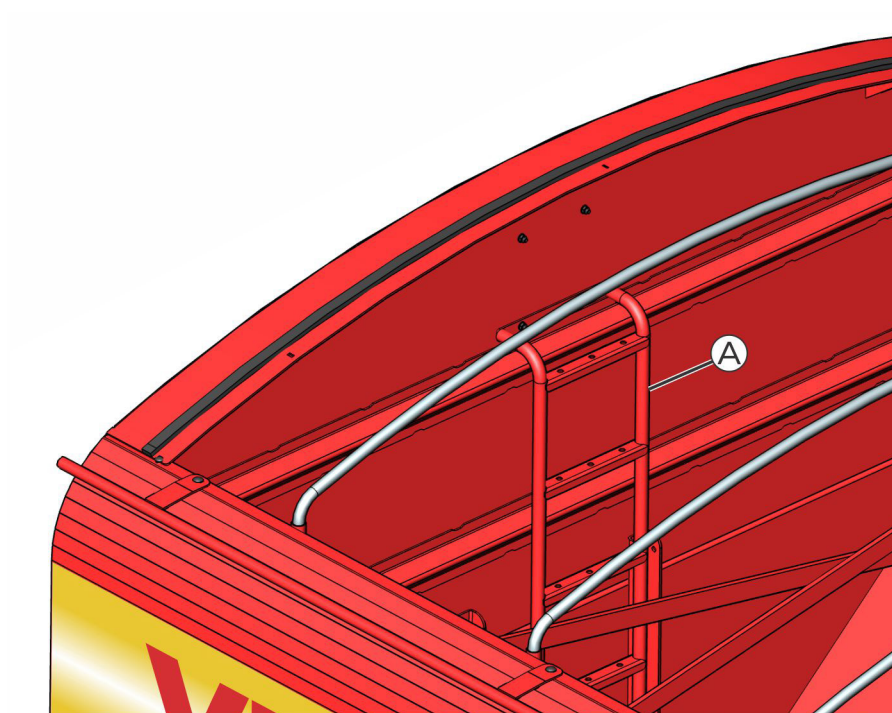

fig. 08
When a worker uses the internal ladder (A) (fig. 08), he must make sure that no grains are loaded in it, thus avoiding risk of suffocation, the cart cannot be put into operation either, in order to prevent accidents with the machine auger.